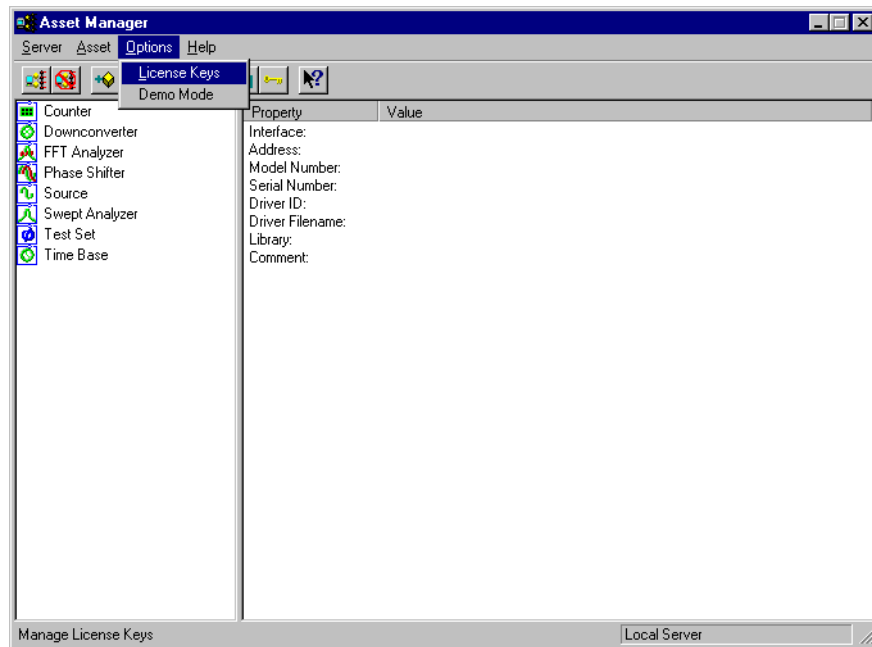

Figure 1-29 Navigate to License Keys
- 3 Click **Options**, and then click **License Keys** (Figure 1-29).